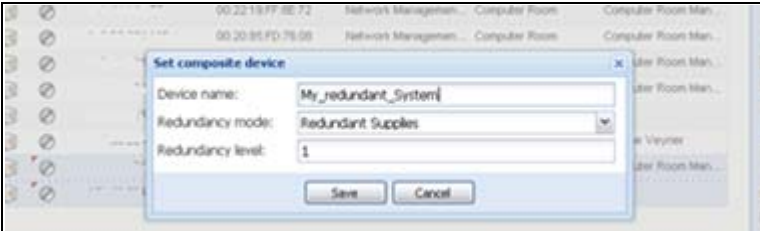

Figure 173. Set Composite Device Dialog Box
- 5. In the dialog box, specify a device name, redundancy mode, and level (see Figure 173):